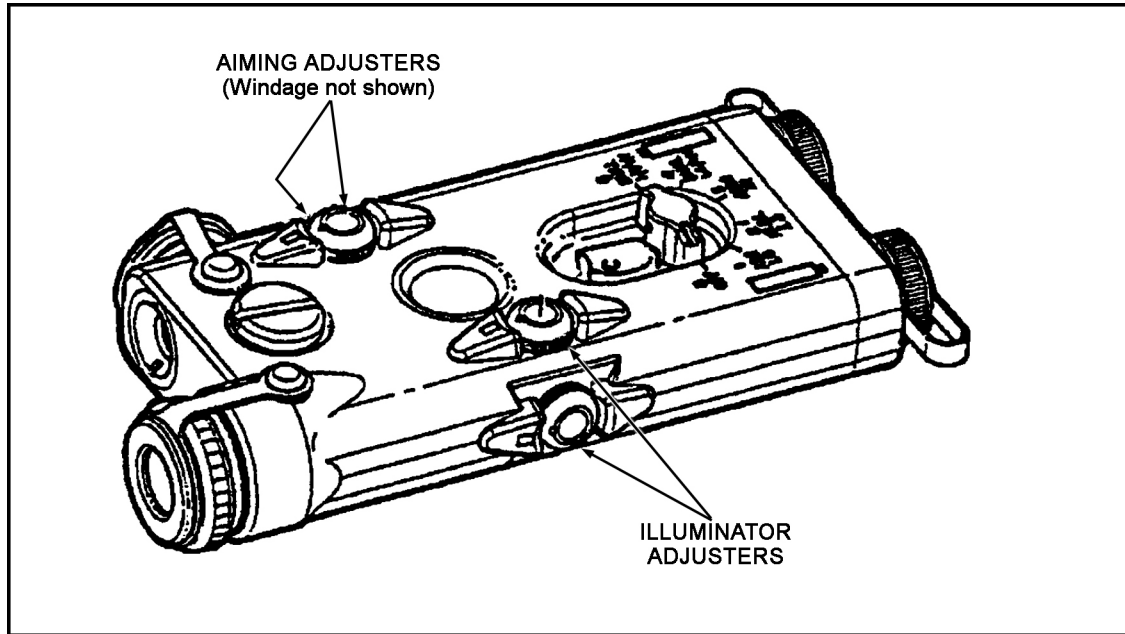

Figure G-8. Boresight adjusters for both aiming and illumination beams.
(8) **Boresight Adjusters.** The AN/PEQ-2A is equipped with boresight adjusters for zeroing the aiming beam and illumination beam to the weapon (Figure G-8). The AN/PEQ-2A adjusters move the beam in true horizontal and vertical directions with the top adjusters used for elevation and the side adjusters for windage. When zeroing the AN/PEQ-2A, it is best to zero the aiming beam to the weapon and then align the illumination beam to the aiming beam.